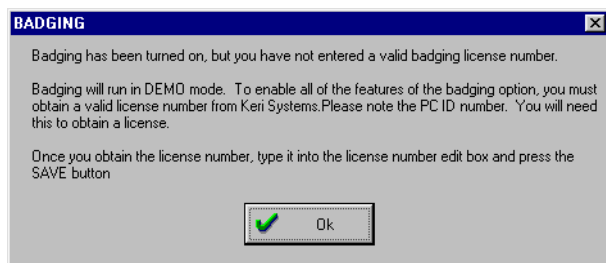

Figure 17: Badging Demonstration Acknowledgment
8. If you choose to enable badging at this time, click . A Badging Demonstration Acknowledgement window appears (see Figure 17). Click the  button. The badging features are all enabled except for the ability to print cards.
Acknowledgement window appears (see Figure 17 on page 14). Click the  button.